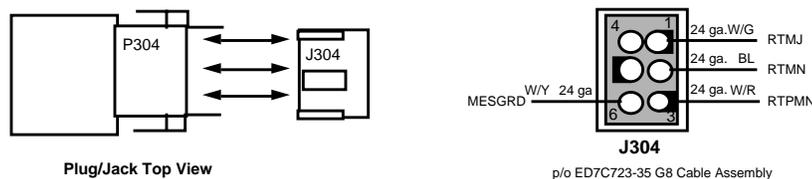

Figure 3-48. Alarms Connections
- Step 2:* Terminate the cable at the MDF and label the leads in accordance with Figure 3-48.